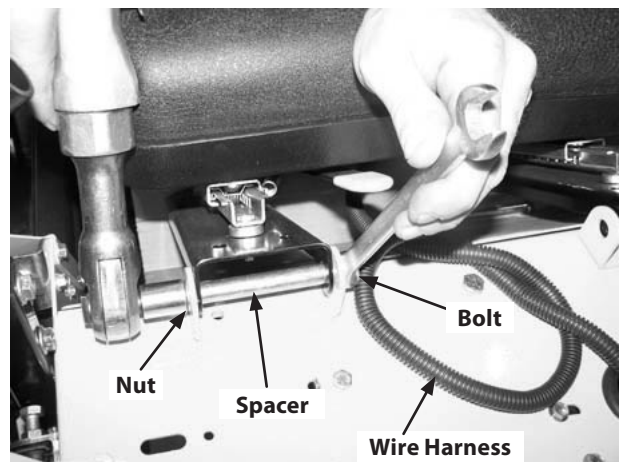

Figure 1-3
3. Rotate the seat into position and secure the seat into place with the previously removed shoulder bolts, nuts and spacers. Be careful not to crimp or damage the wire harness while installing the seat. See Figure 1-3.